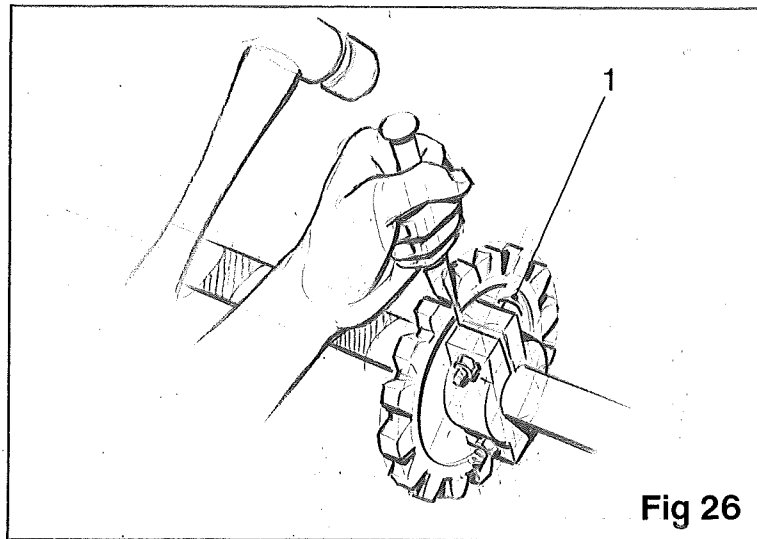

Fig 26
1. Loosen the fixing bolts (item 1, fig 26) and remove.
2. Using a hammer and chisel, split the sprocket along the groove provided (fig. 26).
2. Split the sprocket with a hammer and chisel in the groove provided (fig 26).
3. Locate both halves on the shaft and secure using the fixing bolts (item 1, fig 26).